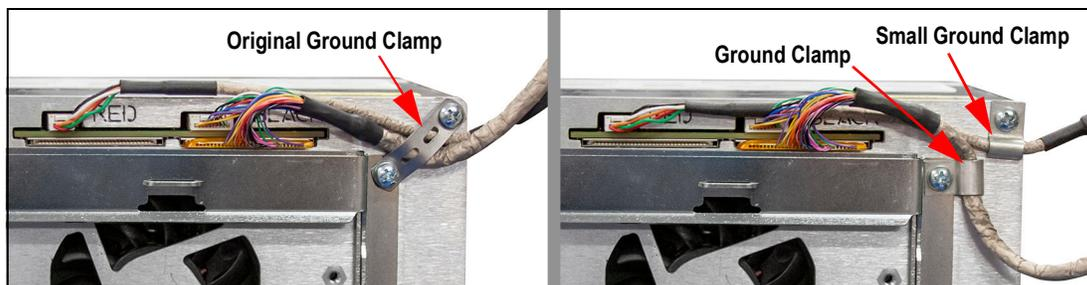

Figure 3. Controller Box Shield Grounding
8. Remove the original ground clamp used on both the display and touchscreen cables (Figure 3).